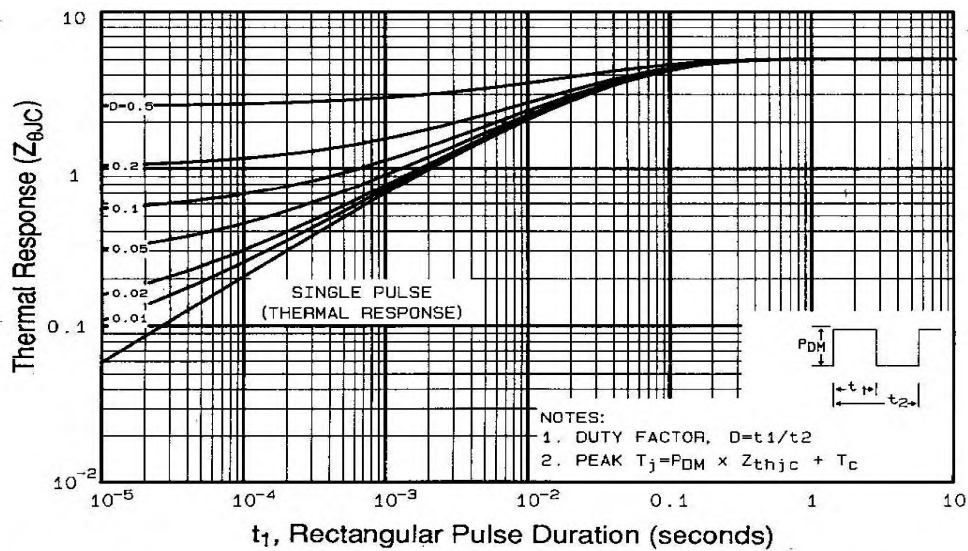

Fig 11. Maximum Effective Transient Thermal Impedance, Junction-to-Case
① Repetitive rating; pulse width limited by max. junction temperature (See Figure 11)